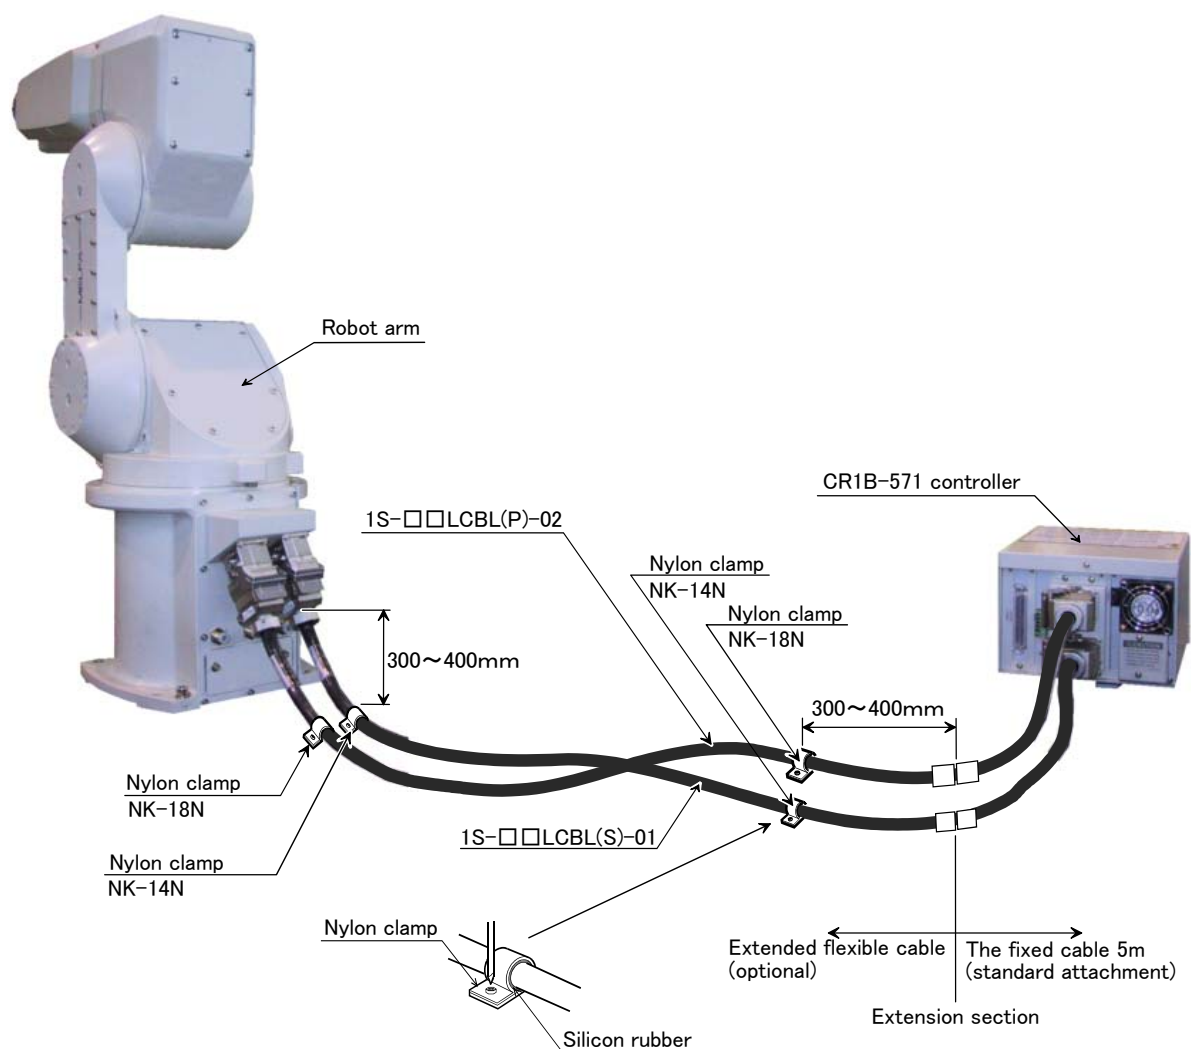

Fig.2-10 : Fixing the flexible cable
- (1) Connect the connector to the robot arm .
- (2) Wind the silicon rubber around the cable at a position 300 to 400 mm from the side of robot arm and extension section as shown in Fig. 2-10, and fix with the nylon clamp to protect the cable from external stress.